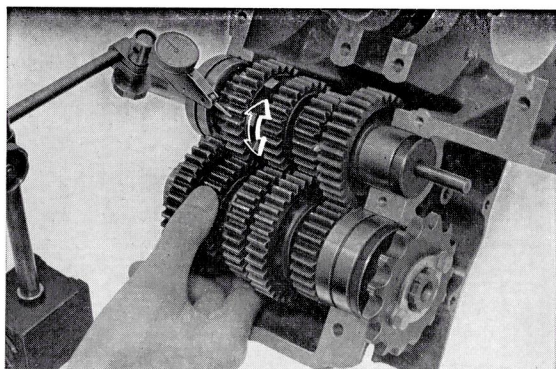

Fig. 3.112 Measuring gear backlash
① Counter shaft outside diameter
3. Backlash (Fig. 3.112)